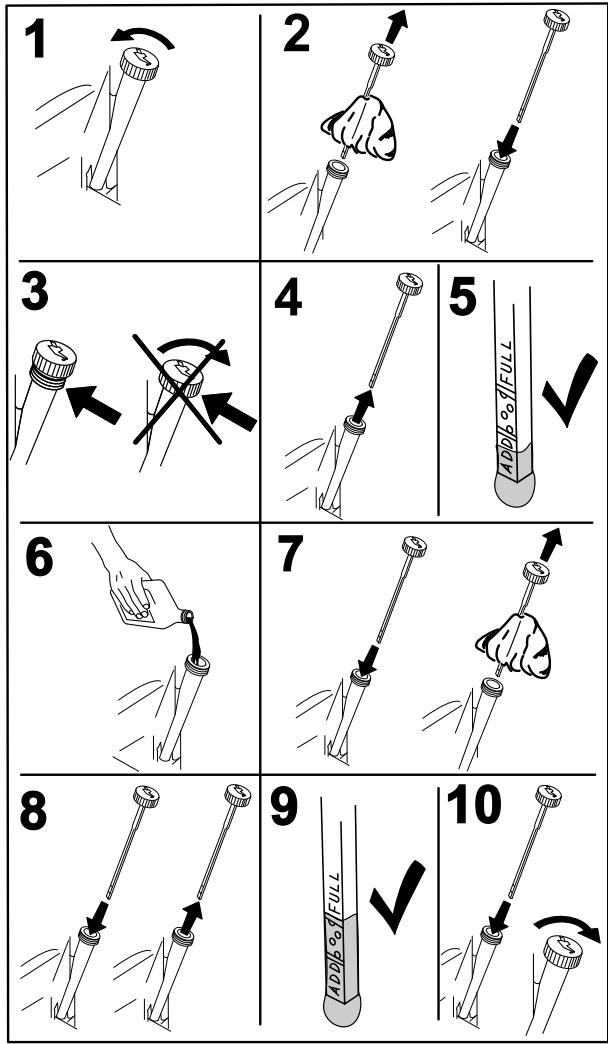

Figure 47
2. Stop the engine, remove the key, and wait for all moving parts to stop before leaving the operating position (Figure 47).